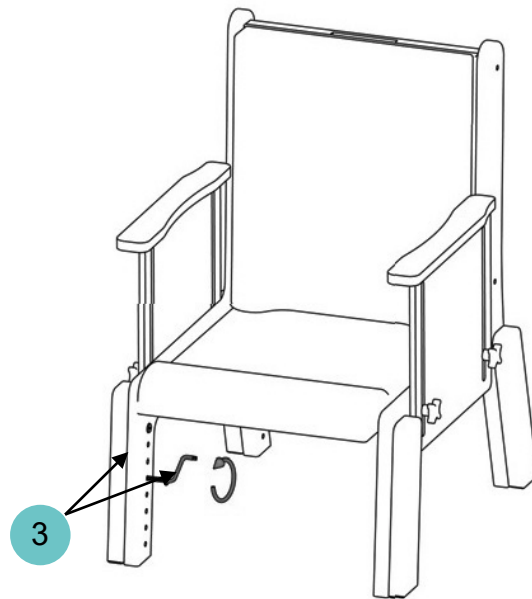

Figure 4
- To adjust the seat height, reposition the leg outriggers (Ref. 3 of Figure 4) using the tool provided for this purpose.